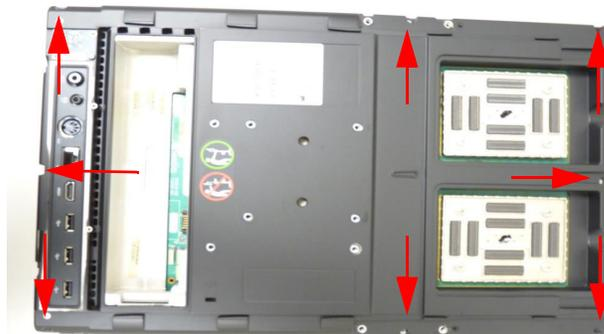

Figure 6.4 Base Assembly Screw Removal
- 8 Remove eight screws securing the Base Assembly to the User Interface as shown in Figure 6.4
- 5 Flip the system over so it appears as shown in Figure 6.4 and fasten with eight screws at 5.5 in-lbs.